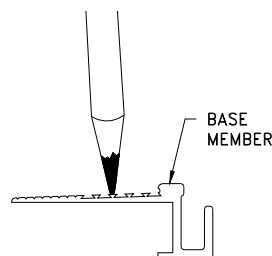

Figure 2
**STEP 2.** Select a section of the base member. If the anchor holes have not been predrilled in the base members at the factory, mark the locations for the anchor holes on the selected base member (see Figure 2). Standard anchor spacing is 20" O.C. with an anchor at a nominal 3" from each end of the base member. Drill the holes into the base member at the marked locations. Repeat this procedure for each section of the base member.